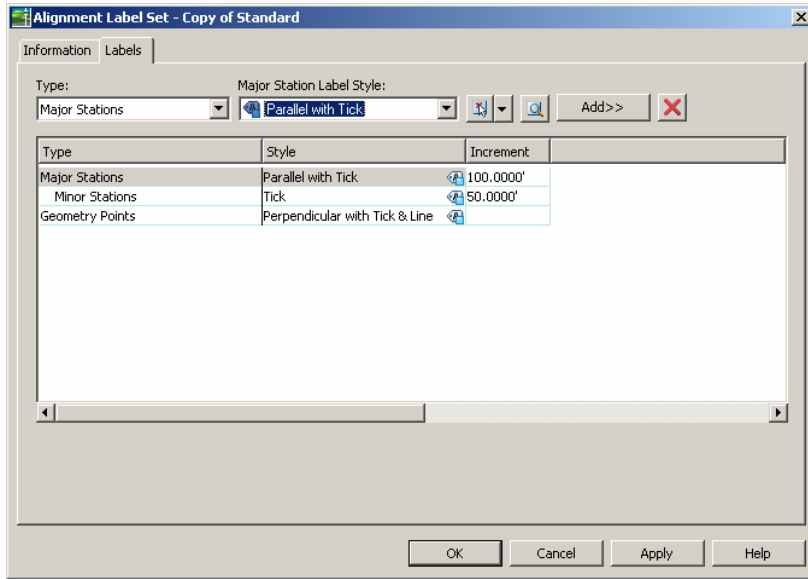

Figure 26. Alignment Label Set dialog box.
As with creating a new label style, it's easiest to create a new label set by copying an existing set and then modifying it. Figure 26 shows the Alignment Label Set dialog box. It too has an Information tab where users specify the name and an optional description. The Labels tab is where users add individual label styles to the set and save them for later reuse.
- Label Style:** Select a Type to see the label styles available for that Type in the Label Style drop-down list. In Figure 26 the Label Style drop-down list is called Major Station Label Style. The name of this drop-down changes depending on the Type selected.
- Add/Delete:** Select the desired Type and Label Style, and then use the **Add>>** button to add the label style to the set. To delete a style from the set, highlight the style in the lower list and click the **X** button. In Figure 26, the label set consists of a Major Station label style named Parallel with Tick, a Minor Station label style named Tick, and a Geometry Point label style named Perpendicular with Tick & Line.